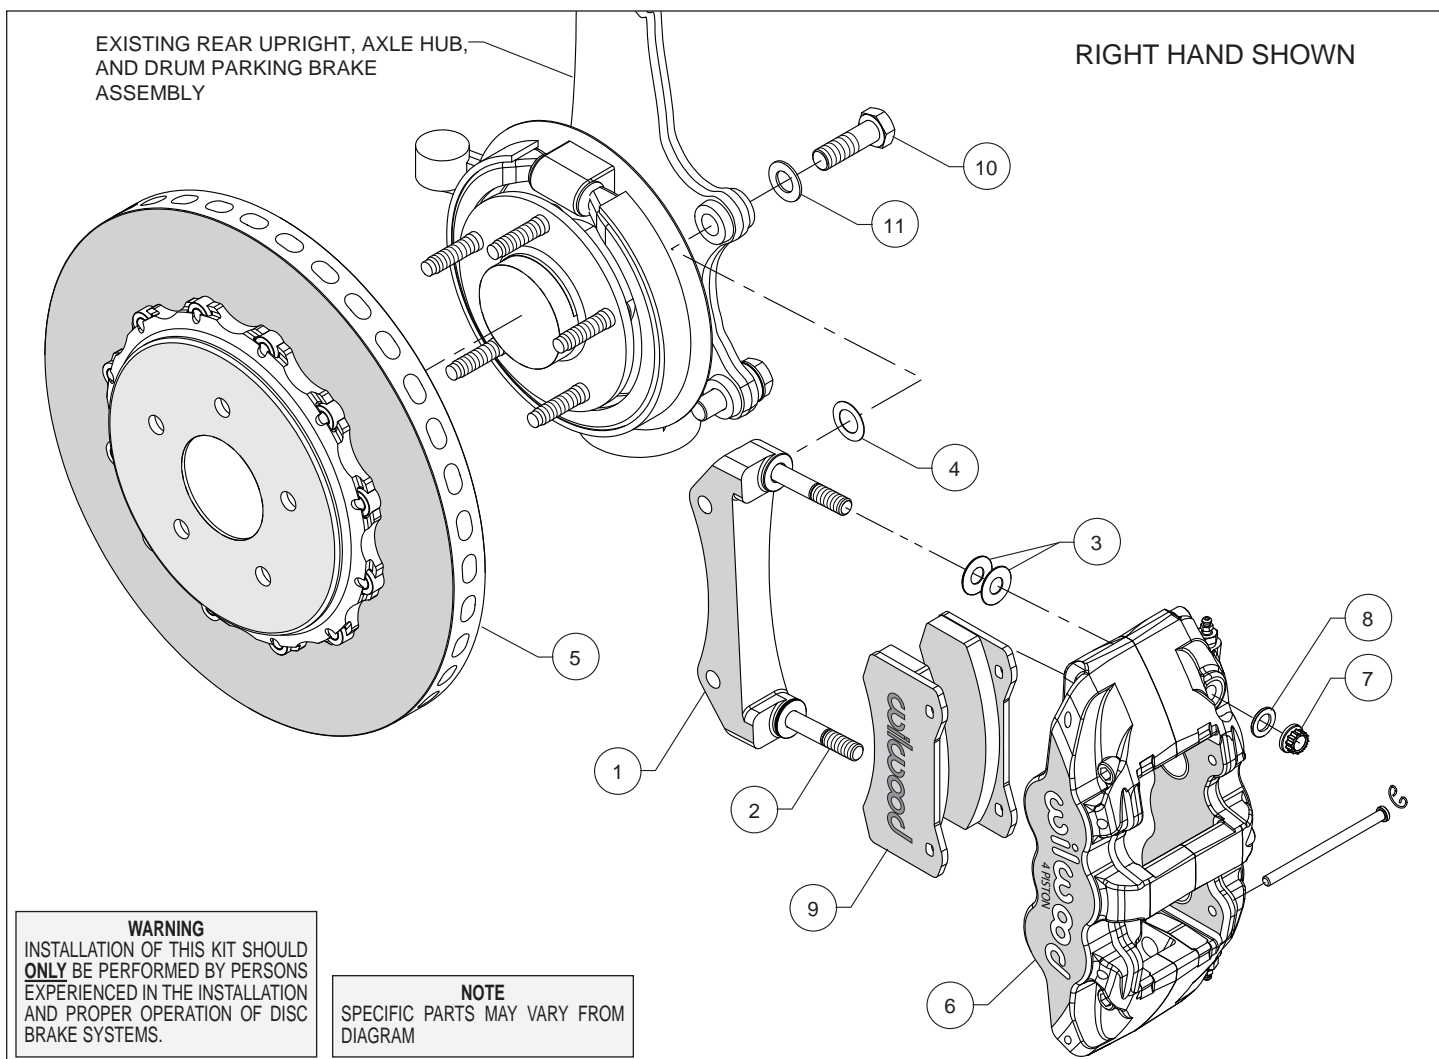

Figure 1. Typical Installation Configuration
Assembly Instructions (numbers in parenthesis refer to the parts list and Figure 1 on the preceding pages):
- The caliper mount bracket (1) should initially be installed with clean, dry threads on the mounting bolts. Orient the bracket as shown in Figure 1 and Photo 1, and install using bolts (10) and washers (11). Initially place one .029 thick shim (4) on each bolt between the bracket and upright, Figure 1. Temporarily tighten the mounting bolts. **NOTE:** The bracket must fit squarely against the mount bosses on the upright. Inspect for interference from casting irregularities, machining ridges, burrs, etc. Later, after the caliper alignment has been checked, the mount bolts will be secured using red *Loctite*[®] 271.
- Lubricate the caliper mounting studs (2) with lightweight oil. Initially place two .030" thick shims (3) on each stud between the caliper and the bracket, as shown in Figure 1 and Photo 2. Mount the caliper (6) onto the bracket (1) using lock nuts (7) and washers (8), Figure 1. Temporarily tighten the lock nuts and view the rotor through the top opening of the caliper. The rotor should be centered in the caliper, Photo 3. If not, adjust by adding or subtracting shims (4) between the bracket and the upright. Always use the same amount of shims on each of the two mounting bolts. Once the caliper alignment is correct, remove the bracket mounting bolts one at a time, apply red *Loctite*[®] 271 to the threads, and torque to 77 ft-lb.
- Remove the two pad retaining pins from the caliper by carefully popping out the pin retaining clips and sliding out the pins. Insert the brake pads (9) into the caliper from the bottom, Figure 1 and Photo 4, with the friction material facing the rotor and secure the brake pads in place with the pad retaining pins and clips, Photo 5. Reinstall the caliper onto the caliper mounting bracket and temporarily tighten the lock nuts. Check that the top of the brake pad is flush with the outside diameter of the rotor, Photo 6. If not, adjust by adding or subtracting shims (3) between the caliper and the bracket. After the caliper pad height is set, torque the caliper lock nuts (7) to 47 ft-lb.